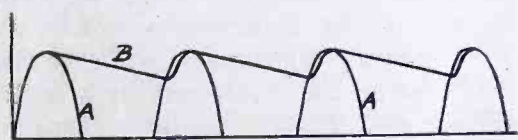

Fig. 1. Effect of Condenser. "A" is the curve of rectified a.c. and "B" the condenser curve
**W**HEN a condenser is put across the line it smooths out humps and holds up the voltage by storing up energy in electrostatic form. A condenser across the rectified a.c. before it goes through the inductance will almost double the voltage on the plate. (Fig. 1.)